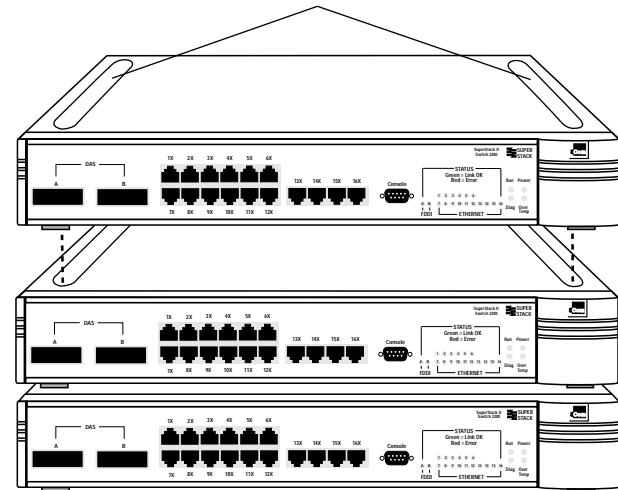

Figure 2-1 Stacking the Switch 2200
- 5 If you are installing the system into a free-standing stack, place the system on top of another, ensuring that the rubber feet of the upper unit fit securely in the recesses in the top of the lower unit. See Figure 2-1.